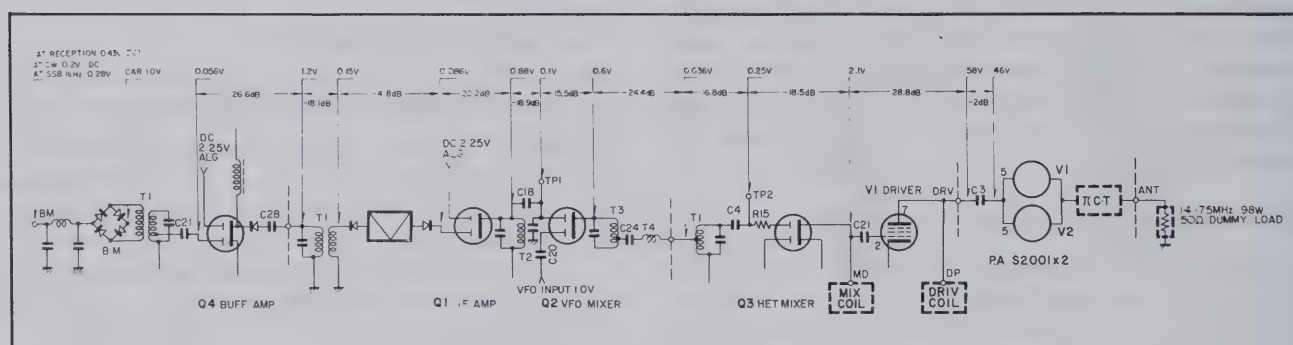

Figure 14. Transmitter Section Level Diagram
Refer to Figure 14 for a level diagram of the transmitter section. The following notes apply to the diagram.
1. The voltage measurements in Figure 14 are measured with an RF VTVM having an input capacitance of less than 3 pf.